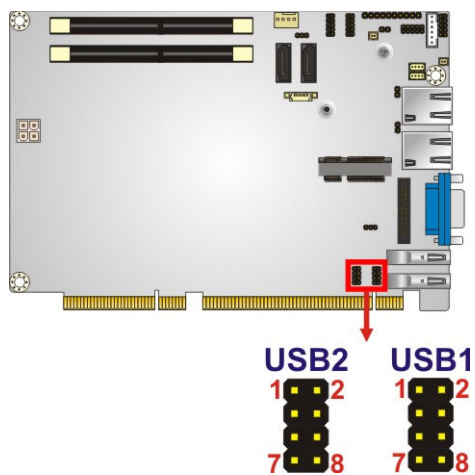

Figure 3-23: USB 2.0 Connector Locations
- CN Location:** See **Figure 3-23**